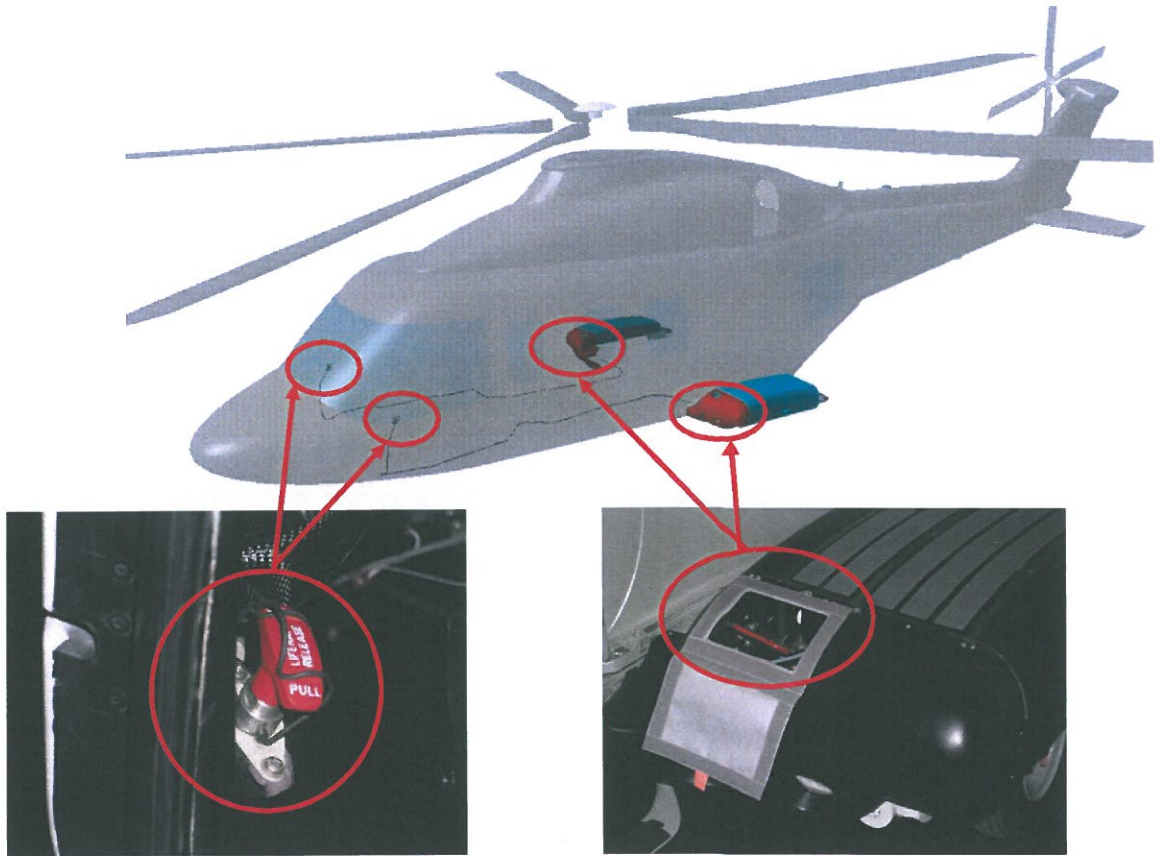

Figure 2
- a. Disengage the locking spring of the RH pilot actuation handle (installed in the cockpit, see Figure 2).
- e. Engage the locking spring of the RH pilot actuation handle (installed in the cockpit, see Figure 2).
- f. Disengage the locking spring of the LH pilot actuation handle (installed in the cockpit, see Figure 2).
- j. Engage the locking spring of the LH pilot actuation handle (installed in the cockpit, see Figure 2).